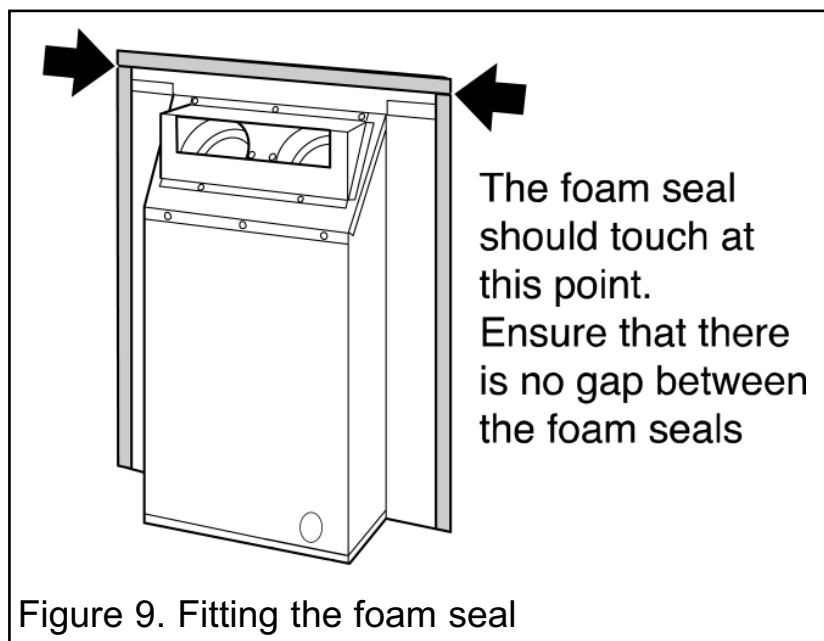

Figure 9. Fitting the foam seal
2. Detach the burner unit from the convector box by removing two screws (See figure 9). Lift the burner unit clear.
There is a length of self adhesive foam seal supplied with the fire. This will need to be fitted to the outer rear edges of the side and top flanges of the convector box. Cut the foam seal to the required length. Be careful not to stretch the seal when measuring. Remove the protective backing from the foam seal and fit this to the rear of the convector box flange (See figure 9).